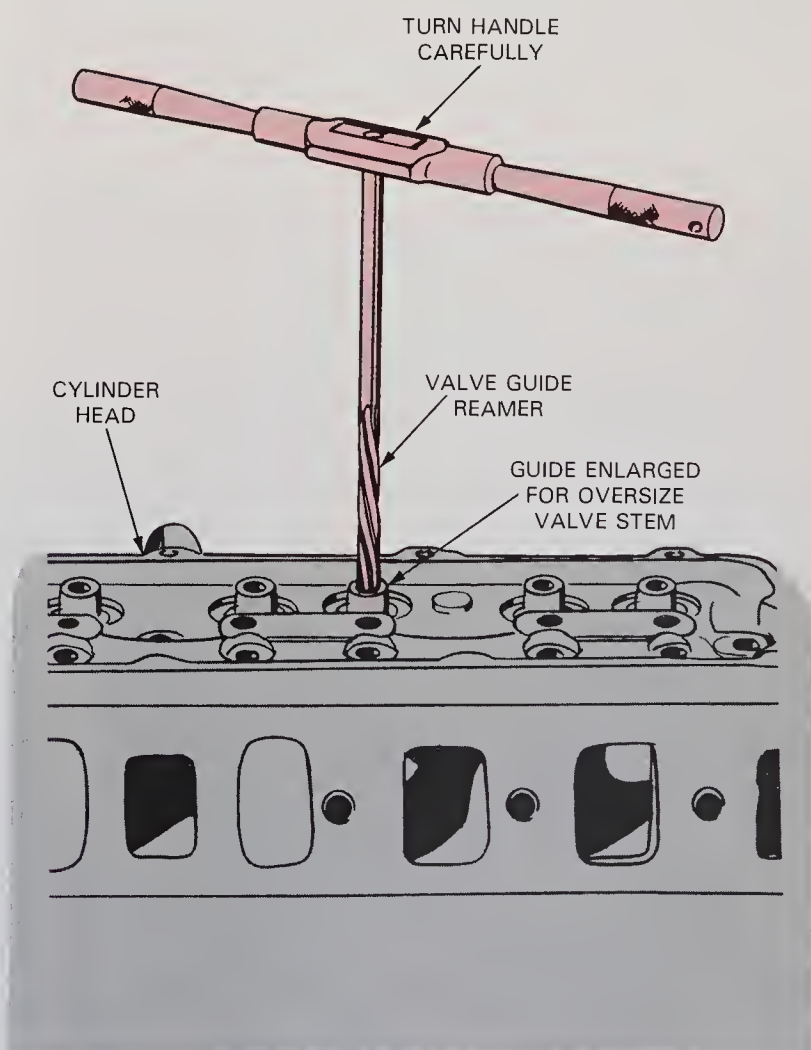

Fig. 48-13. Reamer can be used to enlarge valve guide diameter. Then new valves with oversize stems can be installed. (Oldsmobile)
2. **REAMING VALVE GUIDE** (guide reamed to larger diameter and new valves with oversize stems installed), Fig. 48-13.